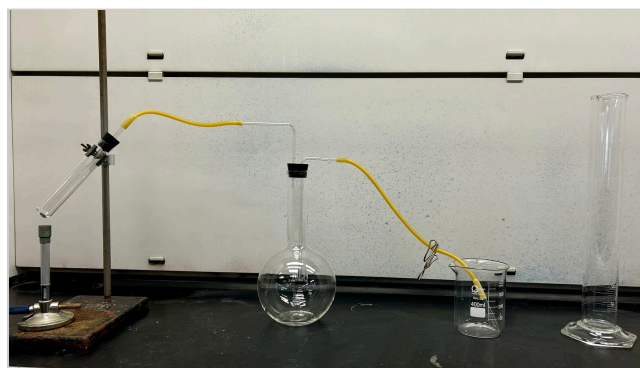

Figure 9.1.1: Molar Volume Apparatus Setup.
1. Assemble the gas displacement apparatus as shown in Figure 9.1.1.